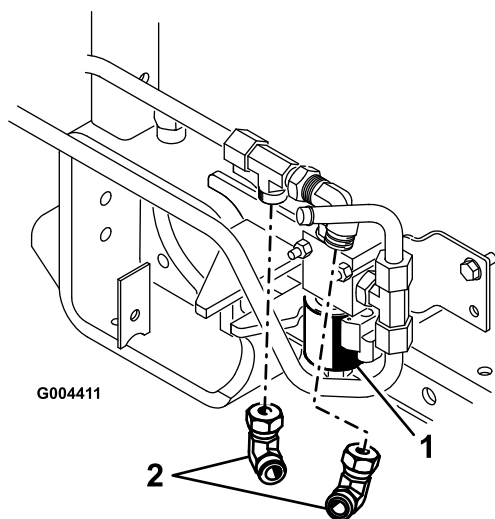

Figure 4
2. Install the 90 degree elbow fittings to the valve at the angles shown (Figure 4).